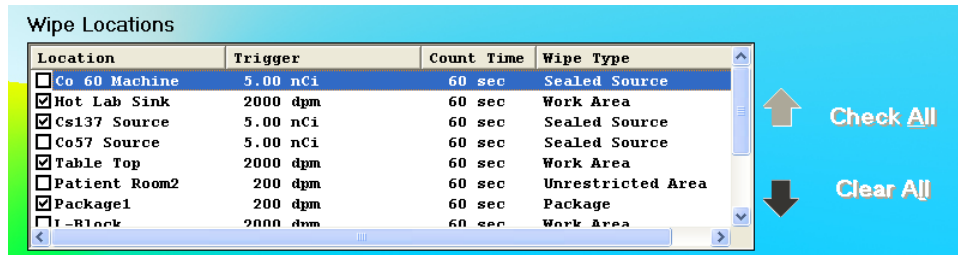

Figure 8-10
- To select one or more wipe locations for deletion, click in the check box to the left of the wipe location name in the **Wipe Locations** box on the Main Wipe Test Screen as shown in Figure 8-10. A check should appear in the check box to indicate it has been selected.